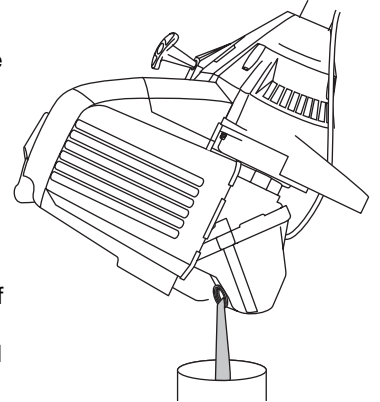

Fig. 25
3. Pour the oil out of the oil fill hole and into a container by tipping the unit to a vertical position (Fig. 25). Allow ample time for complete drainage.